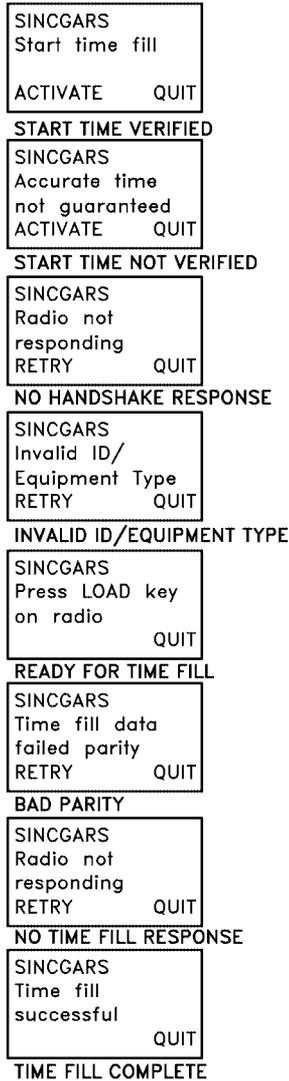

Figure 4-6 SINGARS Display Pages.
4.4.5.1 The SINCGARS function is accessed by pressing the *MENU* key until the *MENU* display with *SINCGARS* comes up. The associated SINCGARS displays are shown in Figure 4-6.